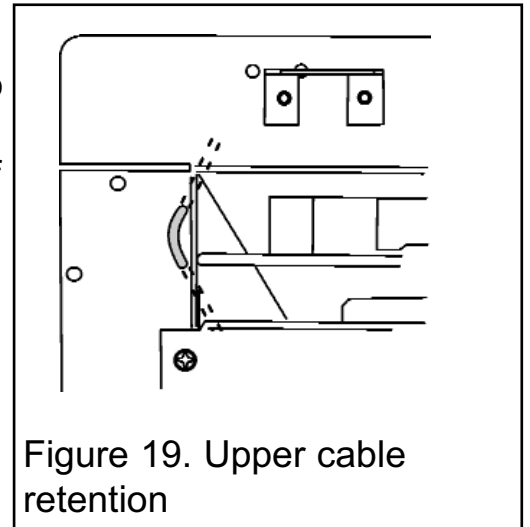

Figure 19. Upper cable retention
5. The convection box has two holes at each side of the convected air opening. Insert one end of each cable (one cable each side) from the back through the lower of the two holes and return the end through the upper of the holes (See figure 19). Give the cables a pull so that they grip against the convection box flanges.